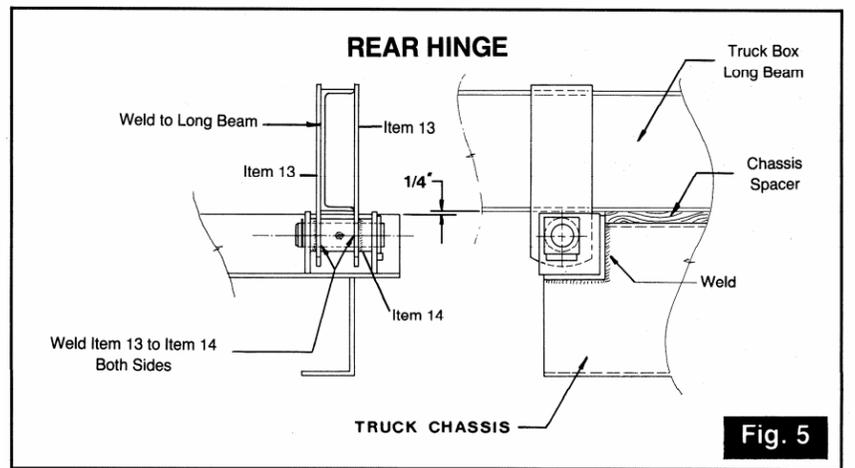

Fig. 5
- 5. INSTALL CHASSIS SPACER AND REAR HINGE** (fig. 5 & 6)
Install the truck box rear hinge weldment within 1/4" of flush with the spacer by notching truck chassis, aligning evenly and squarely and welding with the low hydrogen electrode. Fig. 5 & 6.
Then place hinge pivot tube, hinge plates and hinge in into rear hinge weldment. Position and weld the hinge plates (ITEM 13) to pivot tube (ITEM 14) and weld to truck box long beams. Fig. 5.